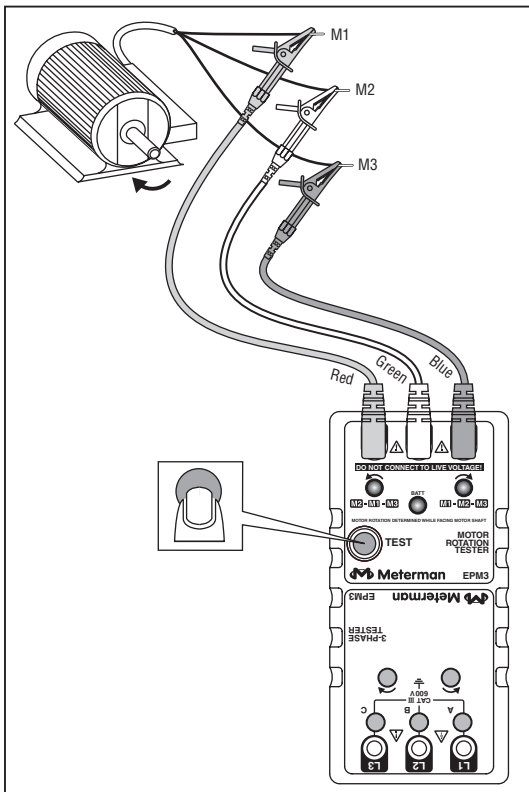

Figure 2
2. Connect the color coded test leads to the three motor input terminals M1- M2- M3. Press the power button (See Figure 2). The green indicator light will be ON.